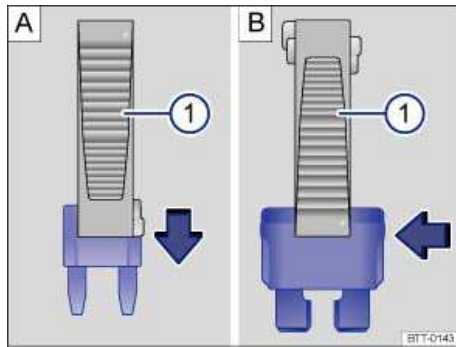

Fig. 167 Removing or installing a blade fuse with the plastic tweezers: A: MINI. B: ATO.
- *For blade fuses:* Depending on the type of fuse, slide the tweezers ⇒ fig. 167 A \(1\) or B \(1\) onto the fuse in the direction of the arrow.